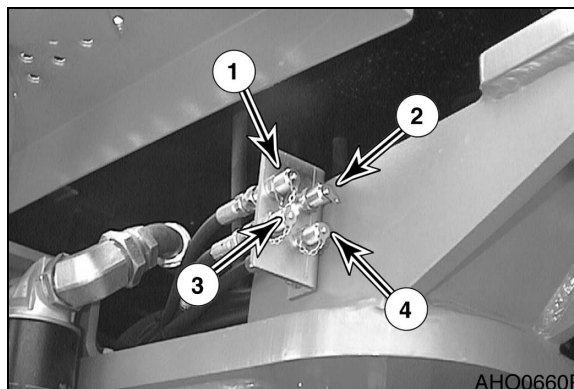

Figure 94
1. Attach gauge to (Port 1, Figure 94)